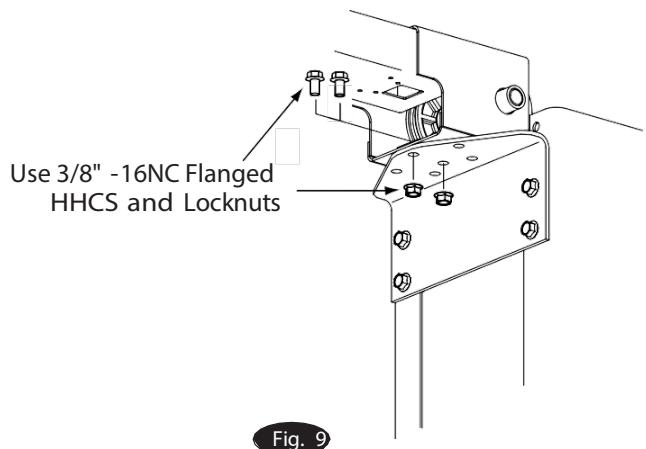

Fig. 9
With a ladder by each column, two people position the overhead assembly onto column mounting brackets and fasten with 3/8"-16NC x 3/4" Ig. Flanged HHCS. Use (2) 3/8" flanged locknuts, Fig. 9. Use middle holes. Tighten bolts at center of overhead assembly.